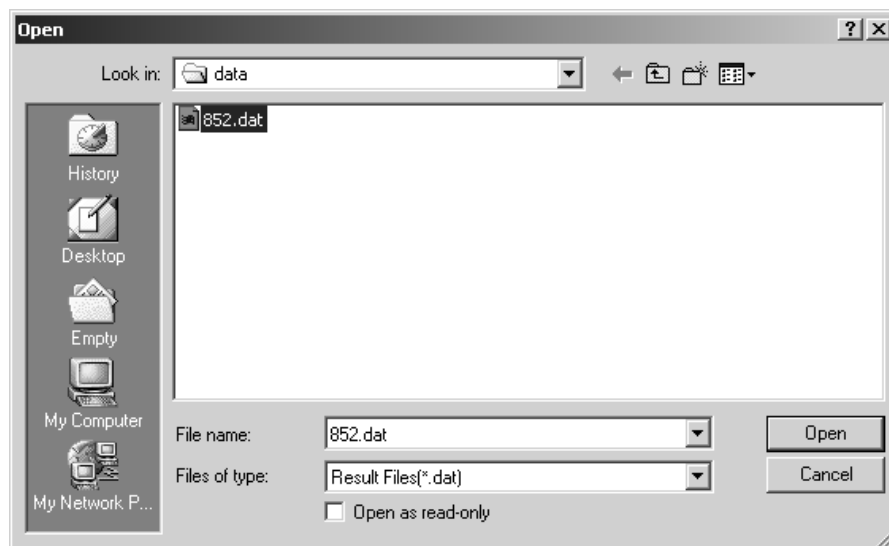

Figure 4.3. The window of Load
- 5) Select “File” of the main menu → Load to open the window of Load as Figure 4.3.
- 2) Select “File” of the main menu → Save to open the window of Save Figure 4.3.